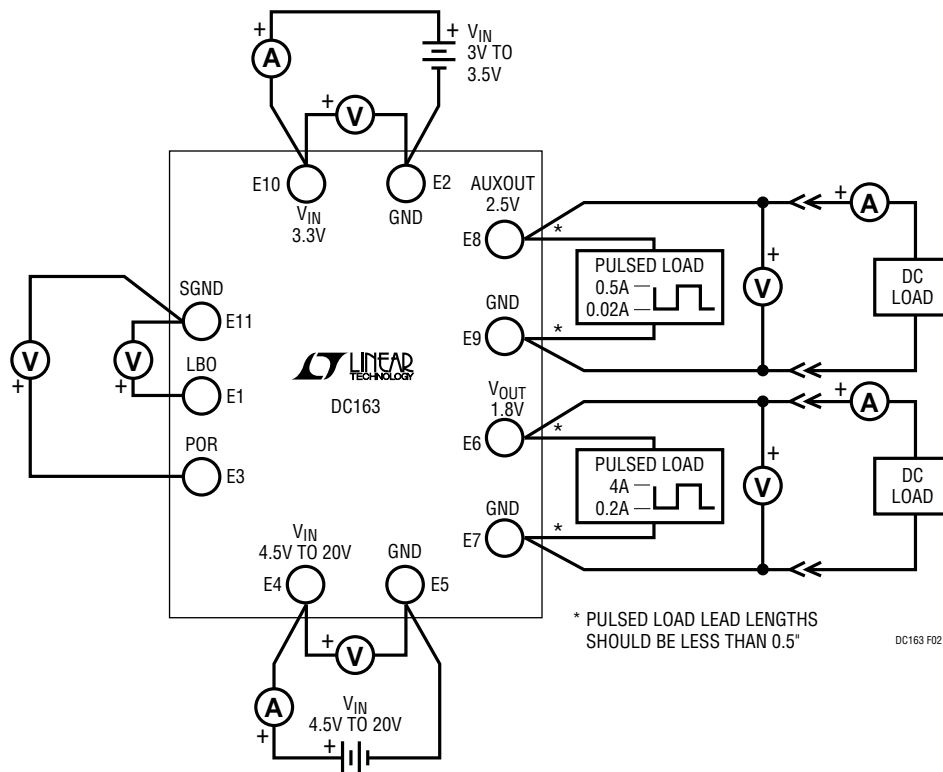

Figure 2. Proper Measurement Setup
1. Before turning on power, connect the input voltage power supplies, output voltage loads and meters as shown in Figure 2. For best accuracy, it is important to connect true RMS reading voltmeters directly to the PCB terminals where the input and output voltages are to be measured. True RMS reading ammeters should be used for current measurements.
3. For pulsed-load testing, disconnect the DC loads and set the pulsed-load currents as shown in Figure 2. A pulsed-load switching frequency between 100Hz and 1kHz is recommended. For optimum transient response, it is important to keep the lead lengths as short as possible between the load and the output terminals. Proper transient voltage measurements are made directly across the decoupling capacitance at the load. Use of the Intel Power Validator[®] is recommended to properly simulate Pentium load transients.